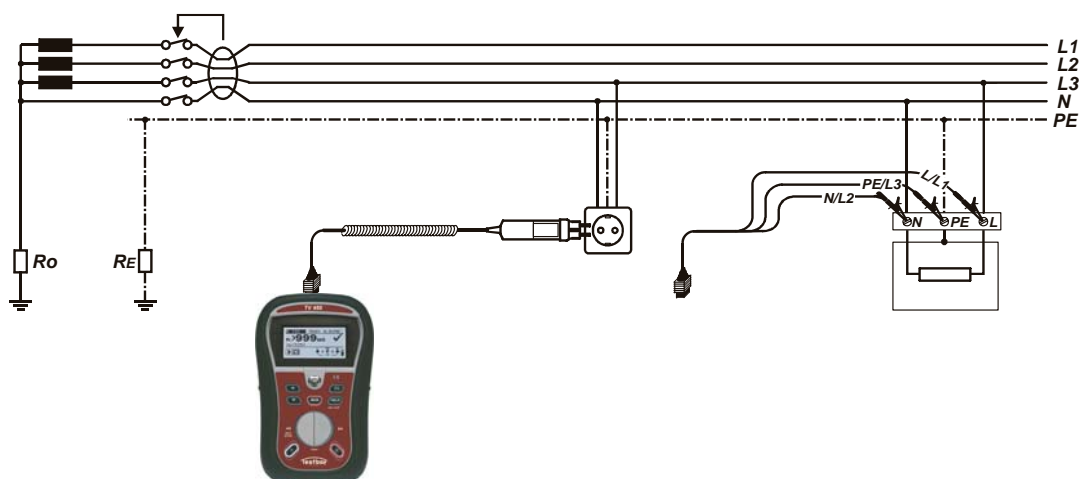

Figure 5.17: Connecting the plug commander and the 3-wire test lead
- ❑ **Connect** test leads to the item to be tested (see figure 5.17).
- Connect** test leads to the item to be tested (see *figure 5.17*).
- Connect** test leads to the item to be tested (see figure 5.17).
<input type="checkbox"/> Select the RCD function using the function selector switch. <input type="checkbox"/> Set sub-function AUTO . <input type="checkbox"/> Set test parameters (if necessary). <input type="checkbox"/> Connect test cable to the instrument. <input type="checkbox"/> Connect test leads to the to the item to be tested (see figure 5.17). <input type="checkbox"/> Press the TEST key to perform the test.	Start of test